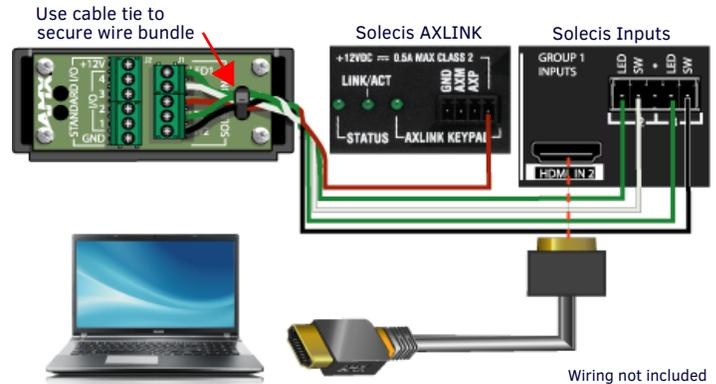

FIG. 3 WIRING TO A SOLECIS DIGITAL SWITCHER EXAMPLE
Connecting to an AMX Solecis digital switcher is completed using the J1 5-pin screw-down terminal on the back of the 2-Button Keypad Module (FIG. 3).
The 2-Button Keypad Module connects to the AMX Solecis front AXLINK port for power as outlined in FIG. 3. Output ports SW1 and SW2 are wired to the corresponding Solecis rear "SW" input that has a MyTurn Ready Cable connected to it. This solution can be implemented without NetLink programming since the SW port is directly connected.
2. Once wires are connected, use a cable tie through the holes in the PCB to secure the cable and provide strain relief (FIG. 3).